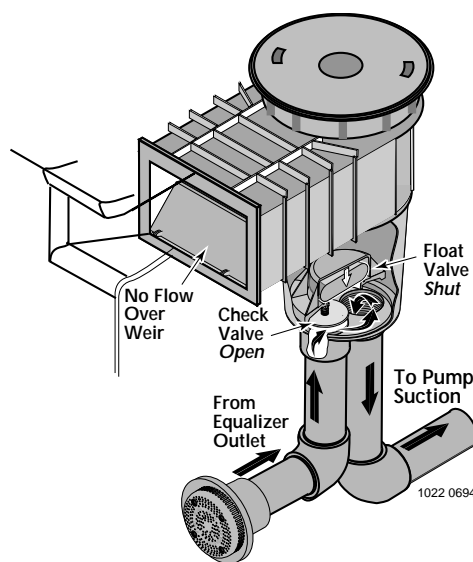

Figure 2: Equalizer operation; float valve shut, check valve open.
- Skimmers with float:** If skimmer is equipped with float valve, adjust trimmer plate on bottom of float. To reach trimmer plate, remove cover, basket, and float valve (See Figure 2, below). Swing trimmer plate to one side to increase trimmer port size (more flow through skimmer, less flow through main drains); reduce port size for less flow through skimmer and more flow through main drains.